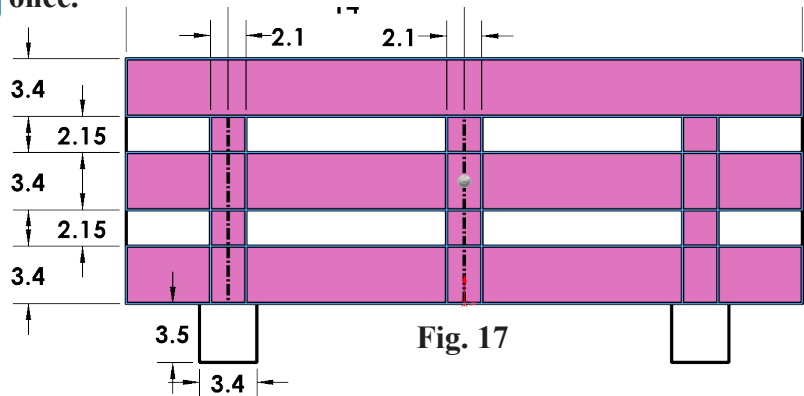

Fig. 17
under Selected Contours click the contours (21), **Fig. 17**